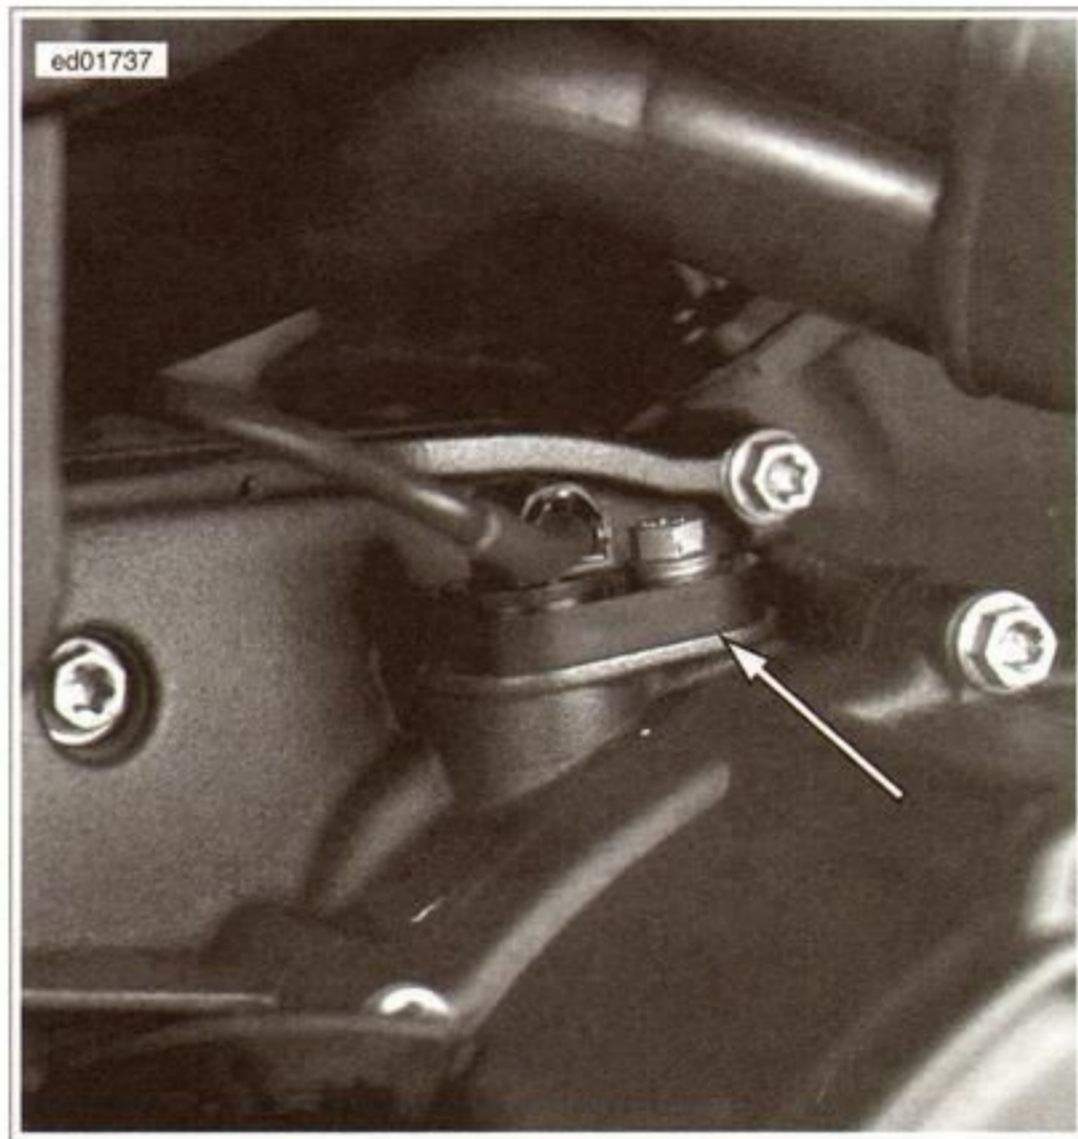

Figure 6-40. VSS Location
See Figure 6-40. The VSS is a Hall-effect device mounted close to the teeth of the trigger wheel. The output signal frequency varies with vehicle speed. Output voltage from the sensor is 5V per increment of distance traveled. The ECM processes the vehicle speed signal and transmits it via the CAN bus to the instrument cluster to indicate vehicle speed. The VSS is supplied battery voltage from the brake/horn circuit (O). The ECM provides ground (BK/W) and receives the speed signal on the (W wire). Refer to Table 6-21.